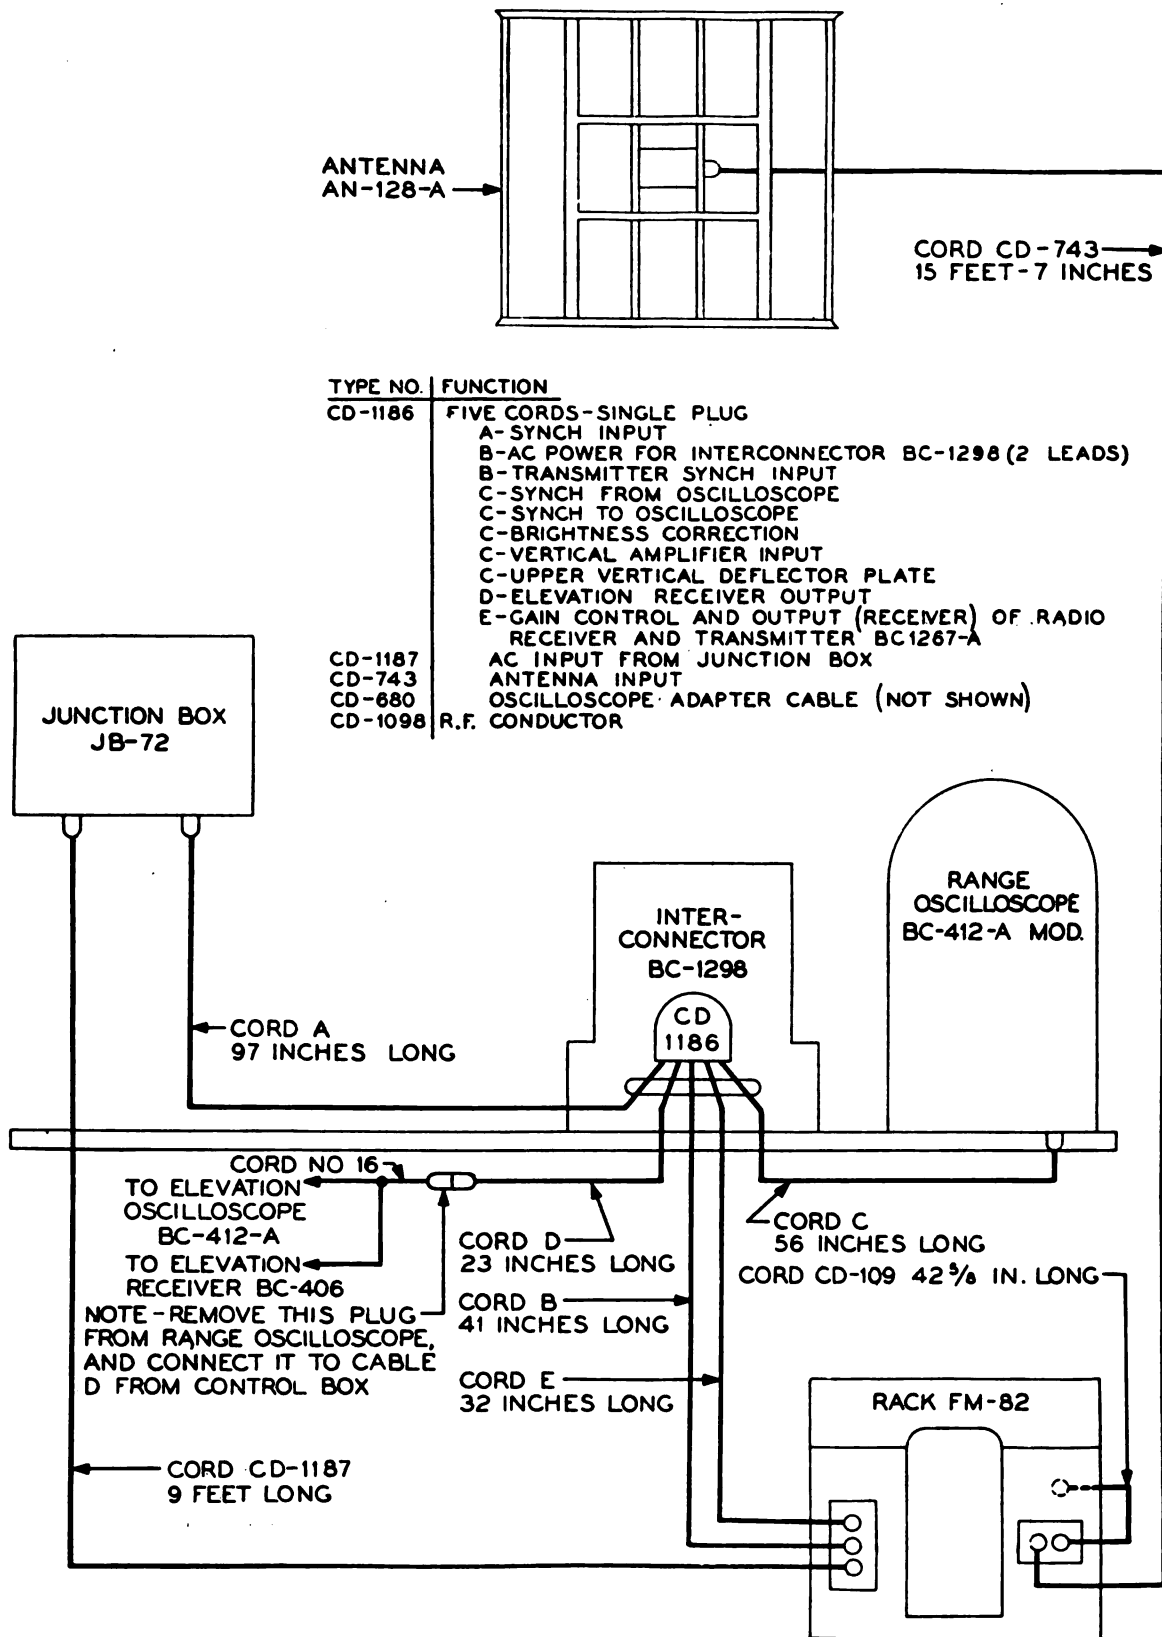

Figure 43. Block diagram of cabling arrangement.
(2) Figure 43 is a block diagram of cable connections. These cords are properly labeled to avoid confusion. Cord CD-1186 is a multiple cable con-
(b) Connect the end of cable A to receptacle AN-3102-22-1S of Junction Box JB-72 (fig. 43).
(d) Connect cable C to the 12-pin receptacle of the range oscilloscope (fig. 43).
(e) Connect cable D to cable 16 of Radio Set SCR-268-C (fig. 43).
(3) Connect one end of Cord CD-1187 to the Junction Box JB-72 and the other end to the receptacle marked 3 at the rear of the rack (figs. 43 and 9).